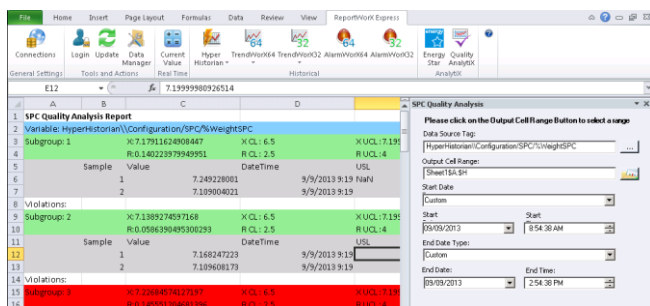

Figure 9 - Configuring Quality AnalytiX Report in ReportWorX Express
7. Click Apply and then use the Update button in the ReportWorX Express ribbon to populate the report with Quality AnalytiX Data similar to the one in Figure 9.